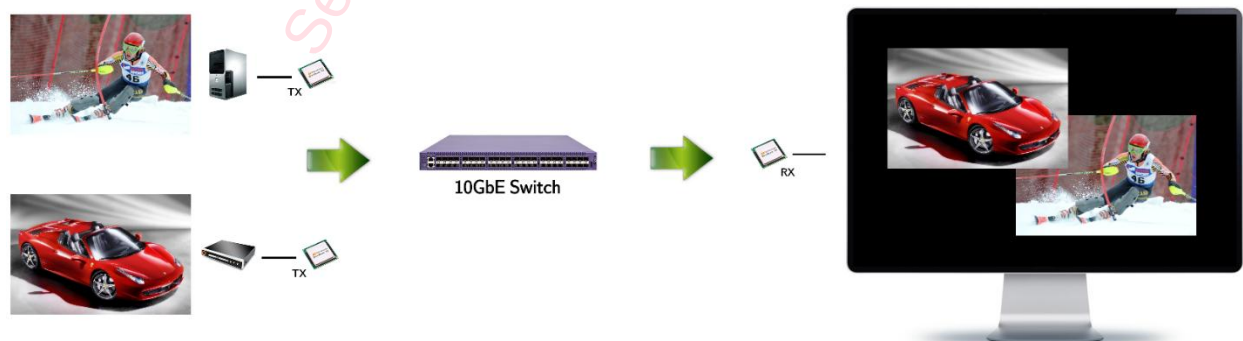

Figure 6: Two-Source Multiview Layout
Going back to the case where the source signals are 4K30 RGB 8-bit, the two encoders (TX) now output the native 4K30 streams and in addition a downscaled 1080P copy of the stream which can be used to create the Multiview layout demonstrated above in Figure 6: Two-Source Multiview Layout.